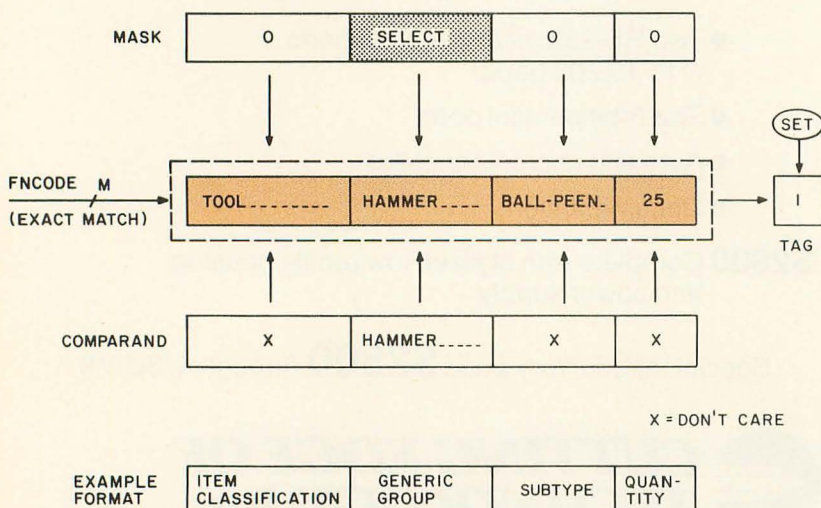

Figure 1: An example of full word parallel information retrieval.
Figure 1 shows a conceptual associative memory word holding information from the previous example. It can be seen that a long word is desirable to store related data. Exact match was the only comparison function used (and is the basic, sometimes only, associative function available in the integrated circuit forms of this memory). A mask is applied to all the words and selects the part of the words to be treated (either matched against, or read out). The *comparand* is the common information that all words test. Due to the length of associative words, some real designs compare the words with the comparand one bit at a time (bit serial, word parallel). This reduces the amount of comparison logic and the size of the data paths to reasonable levels, although a full word comparison takes longer.
there is one separate bit of information for the response status, called the *tag*. The SET function forces the tags to their responding state (1), thereby activating all words initially. A good survey of associative memory articles and architectures is found in Yau and Fung. There is also a new, easy to follow book on the subject by Foster (see bibliography). The full word parallel design of figure 1 will be used for the examples, since it is the simplest conceptually. A more practical architecture that can be built for an S-100 computer will be outlined in part 2.